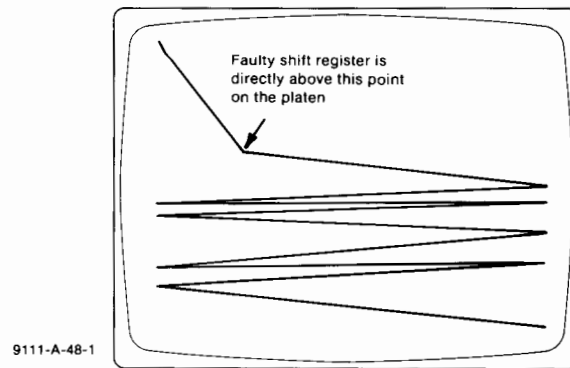

Figure 4-5. X-Shift Register Failure Display
- i. A shift register failure which prevents serial shifting of data will usually result in an error code being generated during digitizing of the UIST dot, and drawing of the diagonal lines will result in a display similar to Figures 4-5 or 4-6.